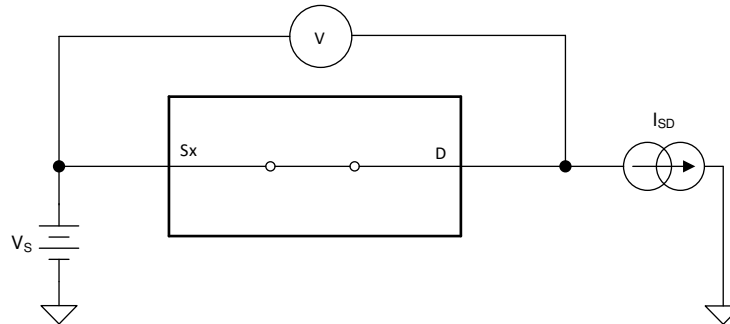

图 7. On-Resistance Measurement Setup
The on-resistance of a device is the ohmic resistance between the source (Sx) and drain (D) pins of the device. The on-resistance varies with input voltage and supply voltage. The symbol R_{ON} is used to denote on-resistance. The measurement setup used to measure R_{ON} is shown in 图 7. Voltage (V) and current (I_{SD}) are measured using this setup, and R_{ON} is computed with $R_{ON} = V / I_{SD}$: